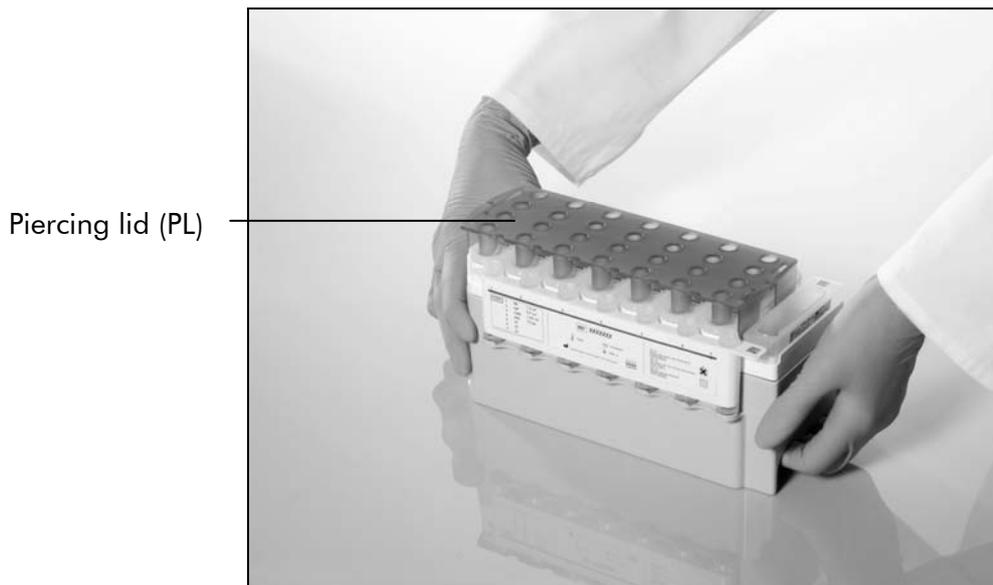

**Figure 3. QIASymphony reagent cartridge (RC).** The reagent cartridge (RC) contains all reagents required for the purification procedure.
Reagents for purification of nucleic acids are contained in an innovative reagent cartridge (RC) (see Figure 3). Each trough of the reagent cartridge (RC) contains a particular reagent, such as magnetic particles, lysis buffer, wash buffer, or elution buffer. Partially used reagent cartridges (RC) can be reclosed with Reuse Seal Strips for later reuse, which avoids generation of waste due to leftover reagents at the end of the purification procedure.
**Note:** The piercing lid (PL) is sharp. Take care when placing it onto the reagent cartridge (RC). Make sure to place the piercing lid (PL) onto the reagent cartridge (RC) in the correct orientation.
After the magnetic-particle trough cover is removed and the enzyme rack tubes are opened (screw caps can be stored in dedicated slots, see Figure 3), the reagent cartridge (RC) is subsequently loaded into the “Reagents and Consumables” drawer.